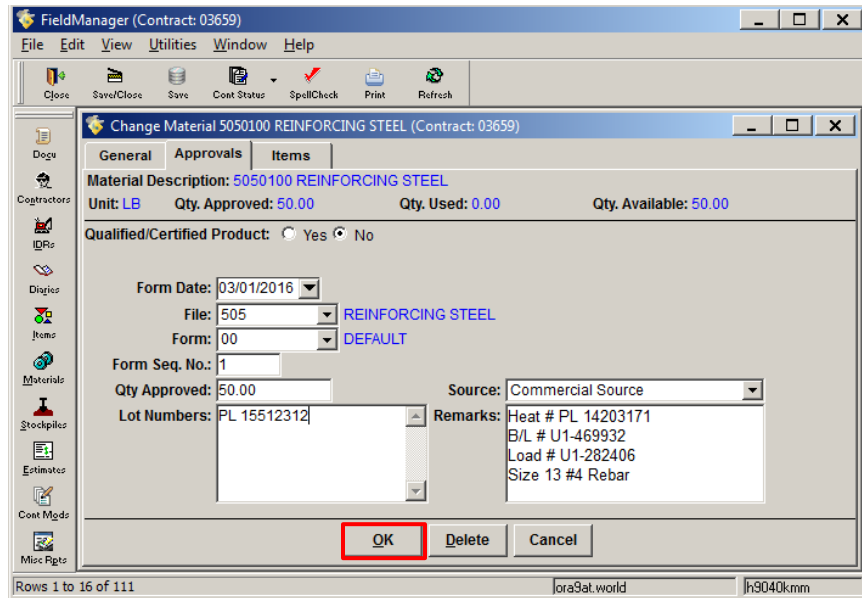

Figure 6-17. Change Material – Approvals tab – Change Approval
5. Change field information as needed (Figure 6-17).
6. Click the **Ok** button to commit the changes (Figure 6-17).